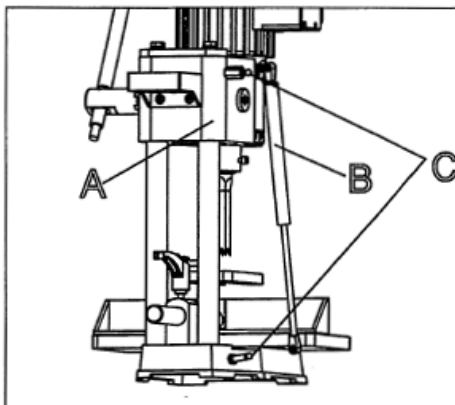

Fig. 4
See Fig. 4. Make sure head (A) is held in the up position and assemble the gas spring (B) to the two fittings (C), one located on the column and the other on the back of the head.